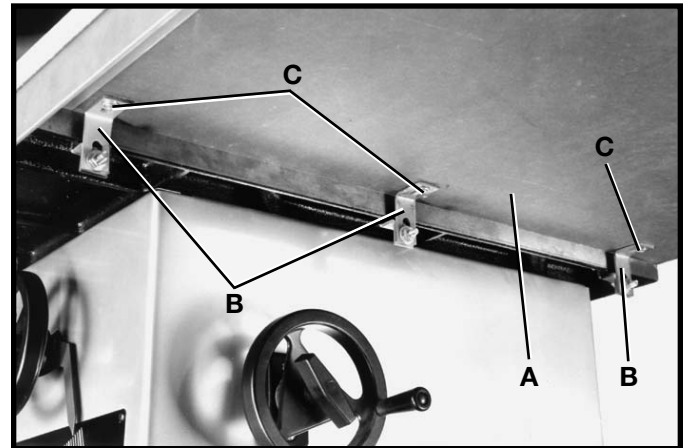

Fig. 55
2. While holding table board firmly against the saw table, fasten table to three angle brackets (B) Fig. 55, using three #8 x 7/8 long wood screws (C). **CAUTION: DO NOT OVER-TIGHTEN TABLE MOUNTING SCREWS.** Over-tightening screws in particle board may cause them to strip.